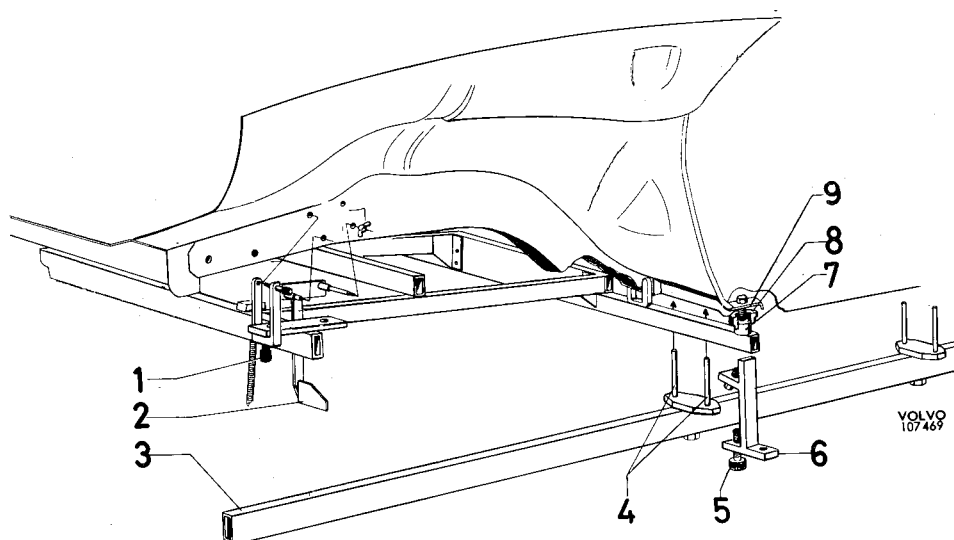

Fig. 8-7. Tool for front side-members
1. Set up the fixture 2777. The rear guide pins with the guides 5001 and 5002 (8, Fig. 8-7) fit in the holes in the floor plating and are held in position by clasps (9).
2. Screw the retainer 2893 (6) on the side-member, with a bolt in the second attaching hole from the front for the rear engine mounting.
3. Place the straight edge 2891 (3) immediately under the side-member so that the front support studs (4) are immediately behind the member for the jack attachment. Rotate the support studs so that they almost support against the sides of the member and lock them